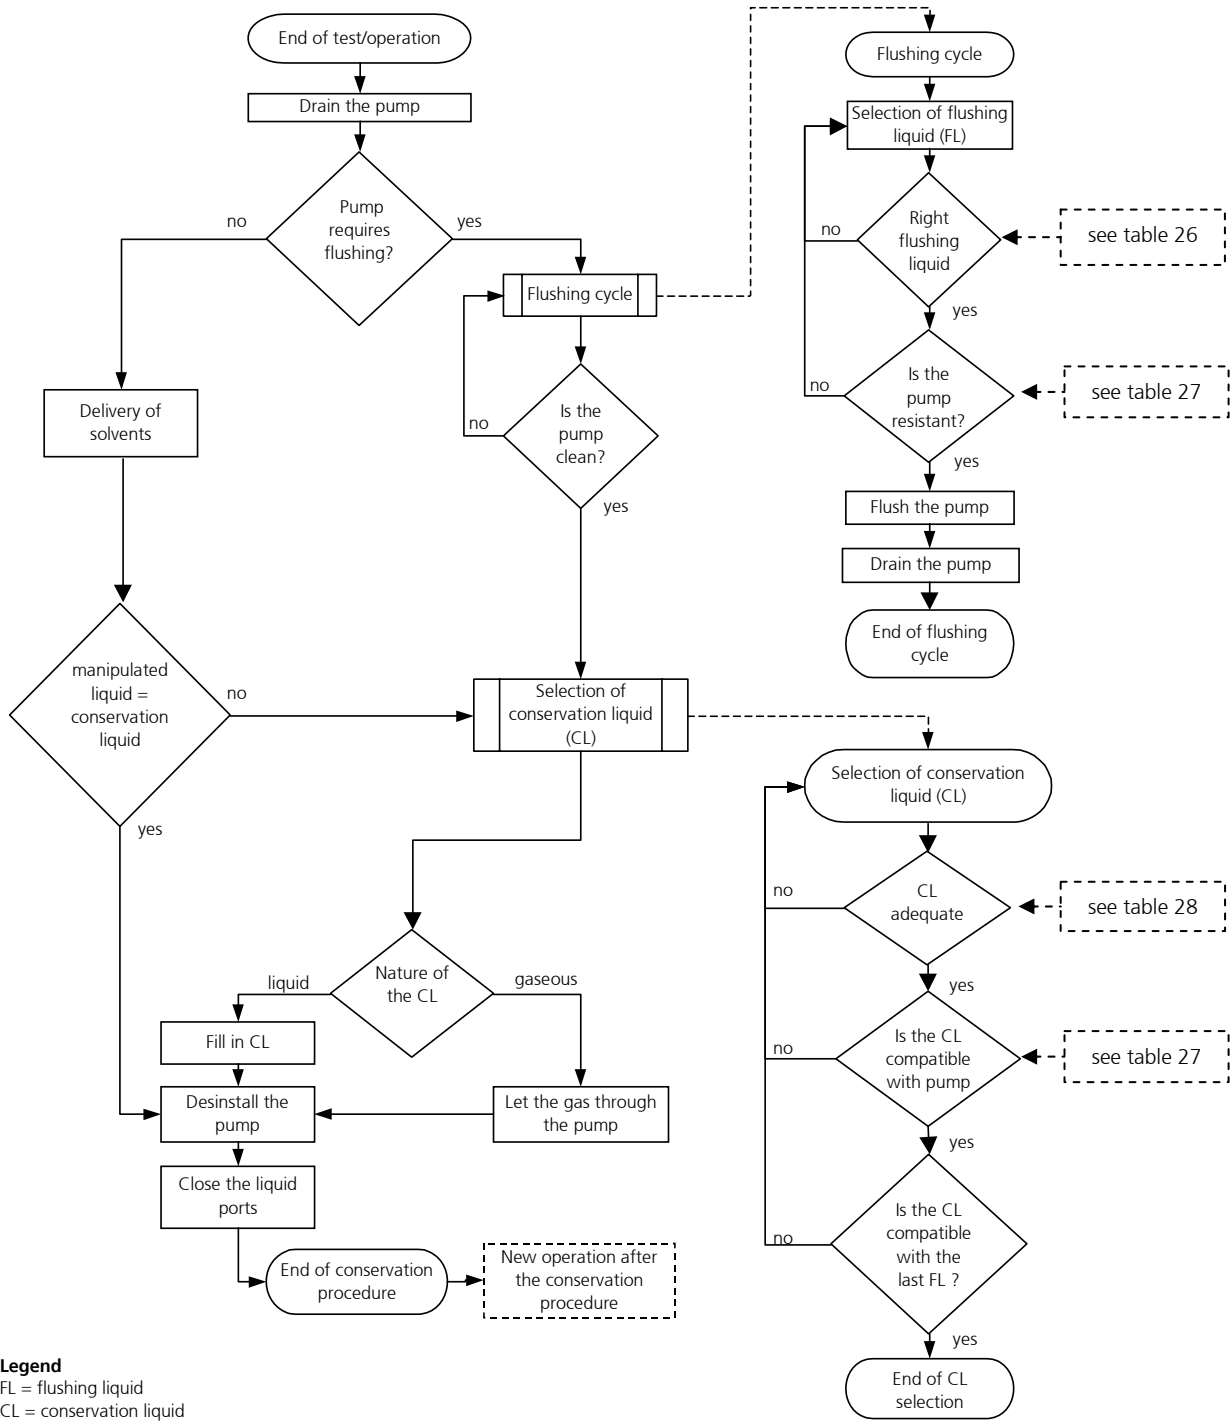

figure 37 Diagram of the shutdown procedure
*Remark:* This diagram is repeated as a part of the figure 37 (shutdown procedure of the micro annular gear pump).